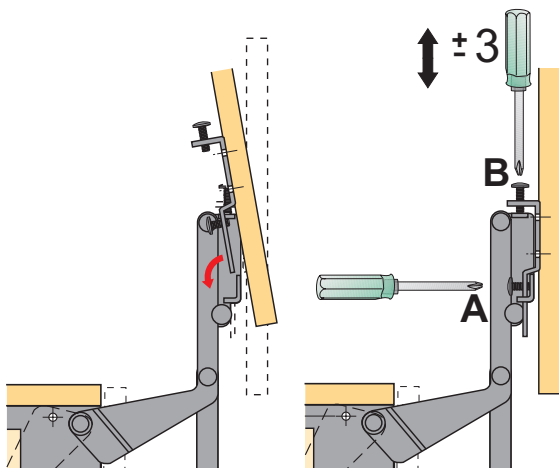

Fig.3
- fasten the pane onto the screwed in bracket (see figure 3),
- using a Phillips (cross slot) screwdriver screw in the side counter screws (see figure 3 A) ,